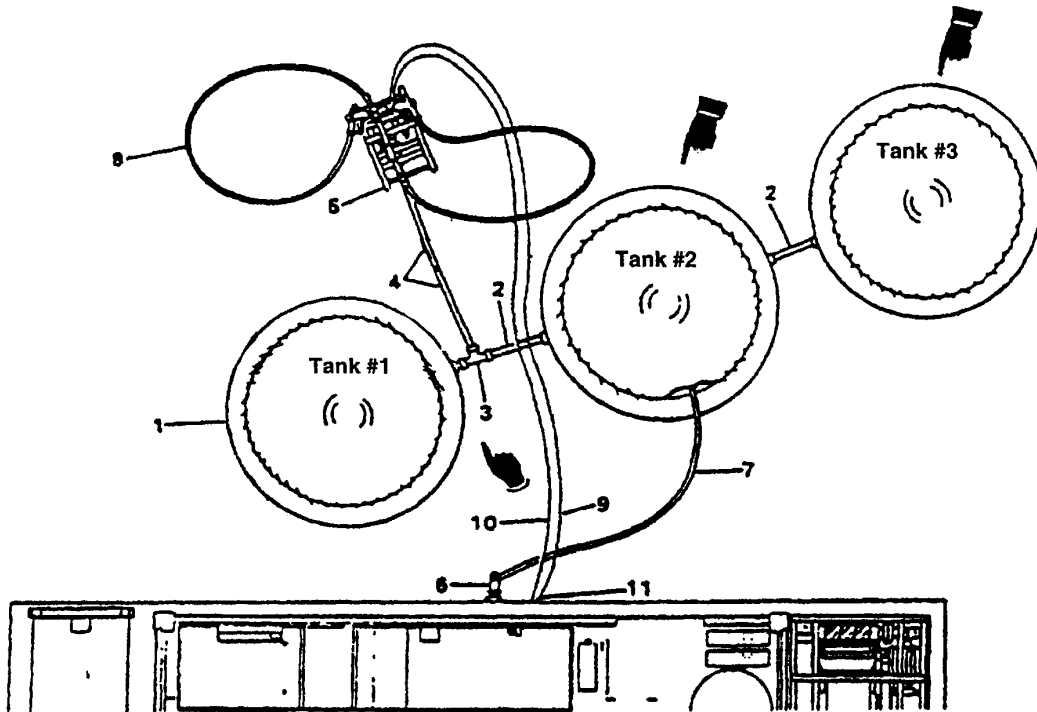

Figure 2-32. Water Distribution System Deployment
- (2) Remove plug (3) from waste water 45° outlet adapter (4).
- (3) Install waste water 45° outlet adapter (4) to connector (2).
- (4) Remove cap (5) from waste water 45° outlet adapter (4).
- (5) Remove plug (6) from waste water hose (7).
- (6) Install waste water hose (7) onto waste water 45° outlet adapter (4).
- (7) Connect other sections of waste hoses (7) as needed to reach water. The open end of the last section must be placed into the water at least 50 feet (15 meter) downstream from the ROWPU raw water intake. Six 50 foot (15 meters) long sections of waste hose are supplied.
- (8) Remove two plugs (8) from two connectors (9) at the two piping drain ports of the ROWPU. One drain pod is located on each side of the ROWPU.
- (9) Remove caps (10) from two drain-out hoses (11) and connect one drain-out hose to the drain-out ports on each side of the ROWPU. Place discharge ends of drain-out hoses downstream from raw water intake and away from work areas.
- (10) Connect sump drain hose (12) and clamp (13) to connector (14) on ROWPU. Repeat for sump drain on other side of ROWPU. Place discharge ends of sump drain hoses downstream from raw water intake and away from work areas.
- (11) Remove any sharp kinks or bends from all wastewater hoses to insure proper drainage in hoses during ROWPU operation.
g. Deploy (Set-Up) Water Distribution System (Figure 2-32).